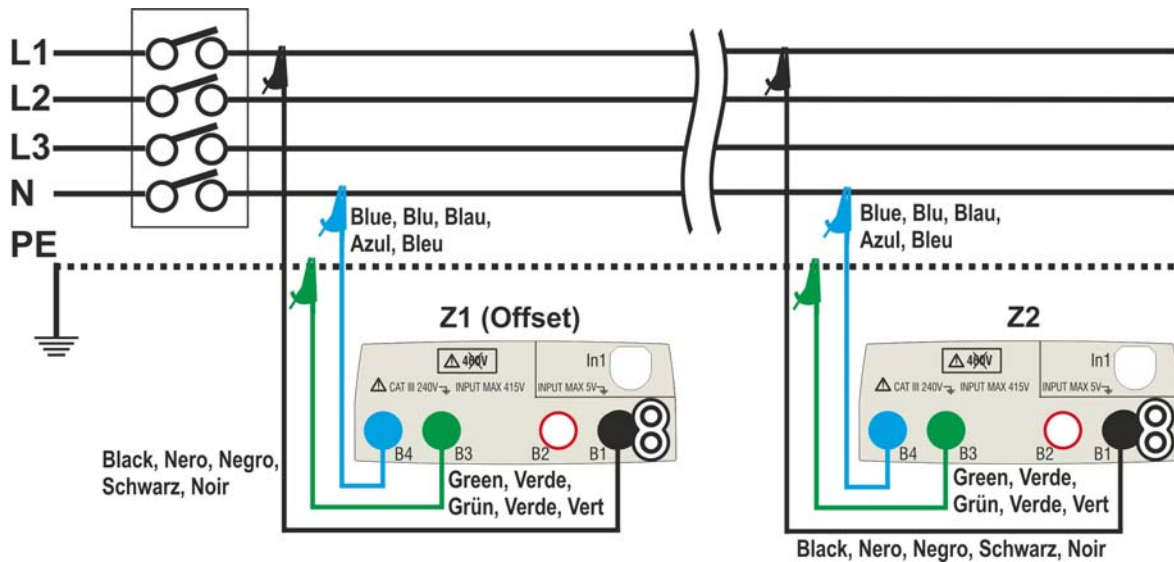

Fig. 32: Connection of the instrument for L-N mode voltage drop measurement
6. Go to step no. 9 in case the value of Z1 (Offset) has been set manually. **In case of the value of Z1 (Offset) has NOT been manually set** connect the instrument to the initial point of the main line being tested (typically downstream to a protection device) according to Fig. 32 or Fig. 33 in order to carry out the first **Z1 (Offset)** impedance measurement. In this case the instrument will measure the impedance upstream of the initial point of the main line being tested taking it as start reference. The following screen (referred to L-L measurement) appears on the display
9. Connect the instrument to the final point of the main line being tested according to Fig. 32 or Fig. 33 in order to measure the **Z2** impedance at the end of line. The screen to the side is displayed. Note the previously measured Z1 (Offset) value displayed